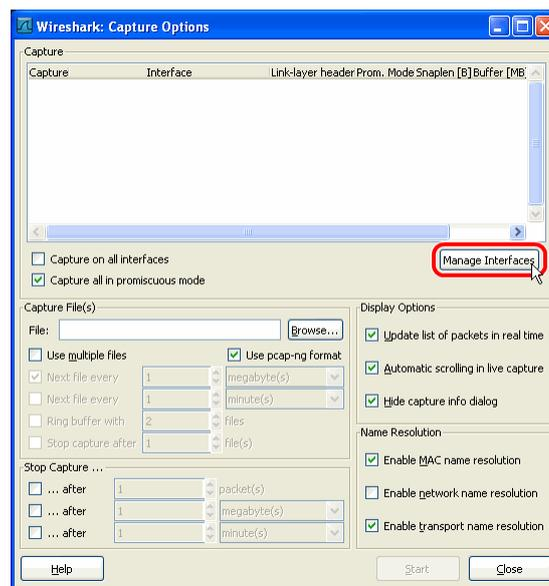

Figure 55: Wireshark Capture Options Dialog.
1. Open Wireshark and choose the menu **Capture → Options...** . This opens the **Capture Options** dialog as shown in Figure 55.